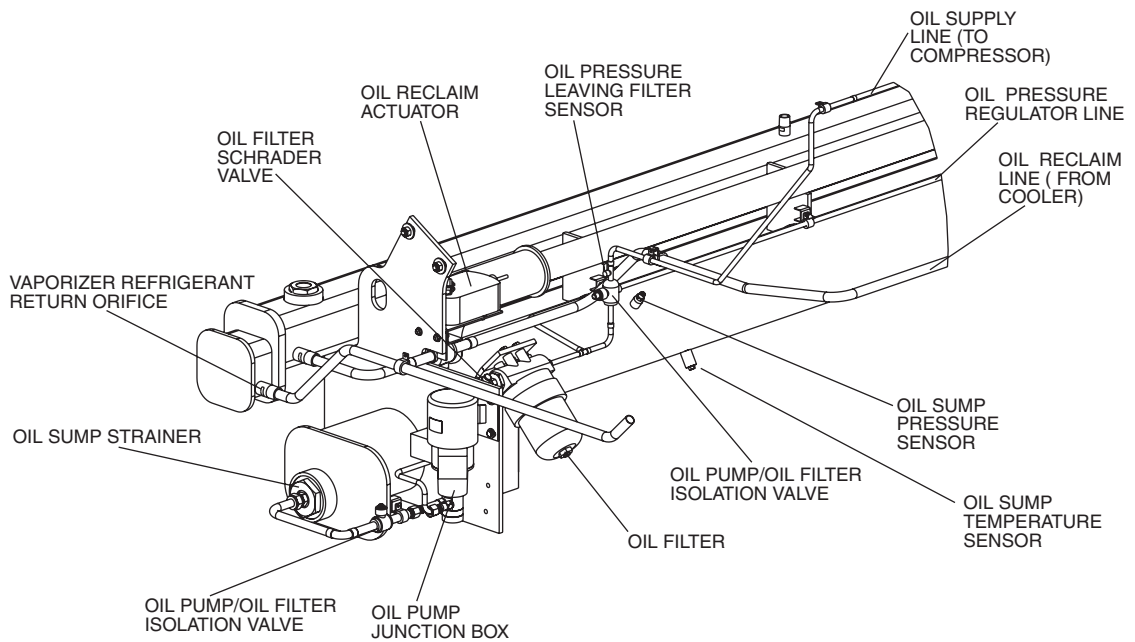

Fig. 37 — Oil Reclaim Components (Unit with R Compressor Shown)
7. Disconnect all wires and cable leads to the vaporizer assembly (see Fig. 37) including: